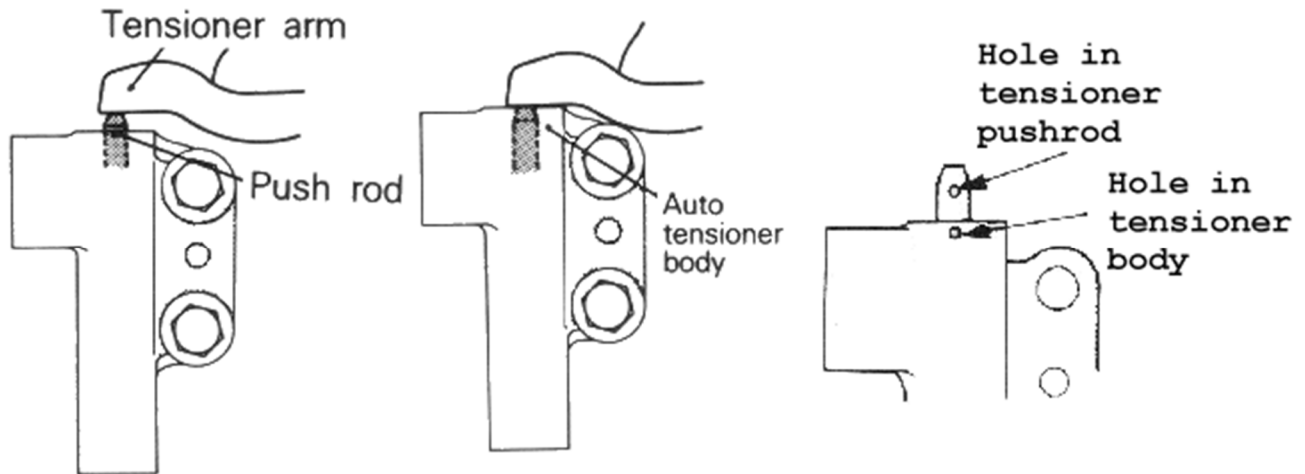

Figure 5
14. Compress the Auto Tensioner push rod by SLOWLY rotating special tool no. MD998738 until hole in Auto Tensioner push rod aligns with the hole in the Auto Tensioner body (Figure 5).
16. Insert a 1/16 inch allen wrench or similar pin { 1.4 mm (.055 in.) in diameter } into the aligned holes to hold the push rod in the reset (pinned) position. Back off special tool MD998738 once auto tensioner is in the reset position (Figure 5).